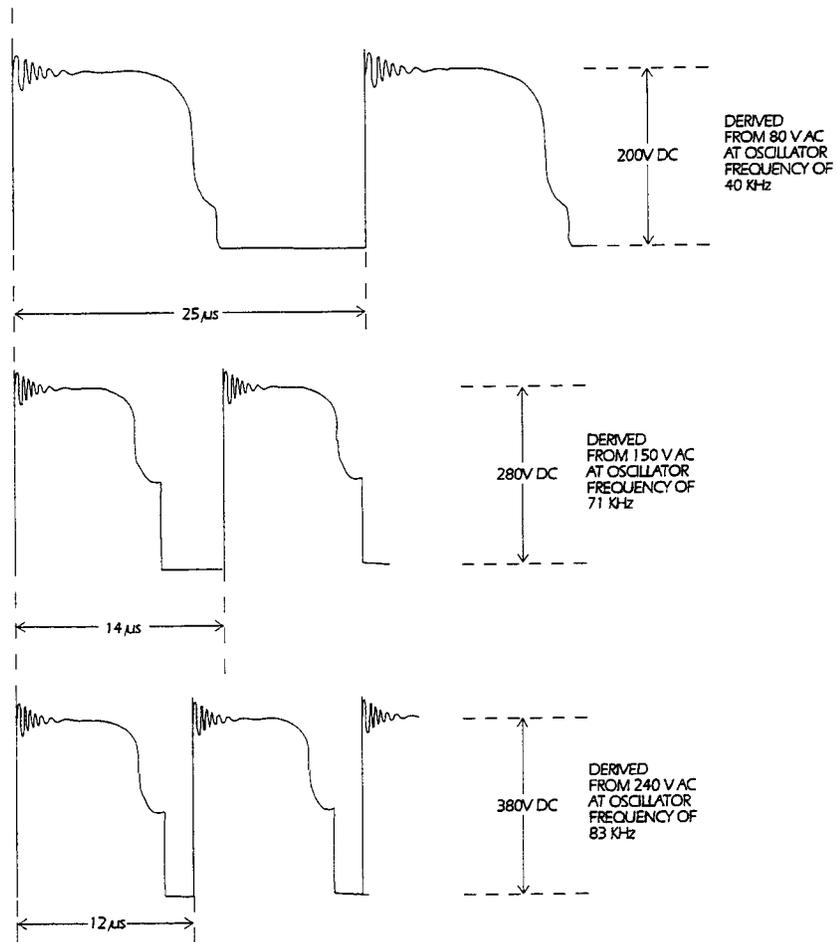

Figure 4-6. Waveforms at CR407 anode
3. Check that the observed waveforms are similar to those shown in Figure 4-6
5. Check that the observed waveforms are similar to those shown in Figure 4-6